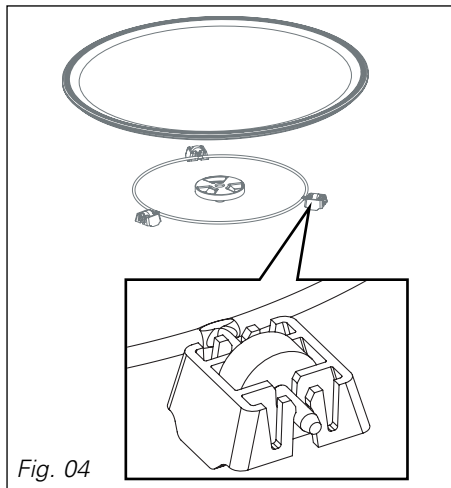

Fig. 04
- **The driver:** causes the glass turntable to turn (Fig.04).
- **The base rollers:** Rollers must be positioned in the right direction (Fig.04). If they are not rotating properly, check for foreign bodies under the rollers.